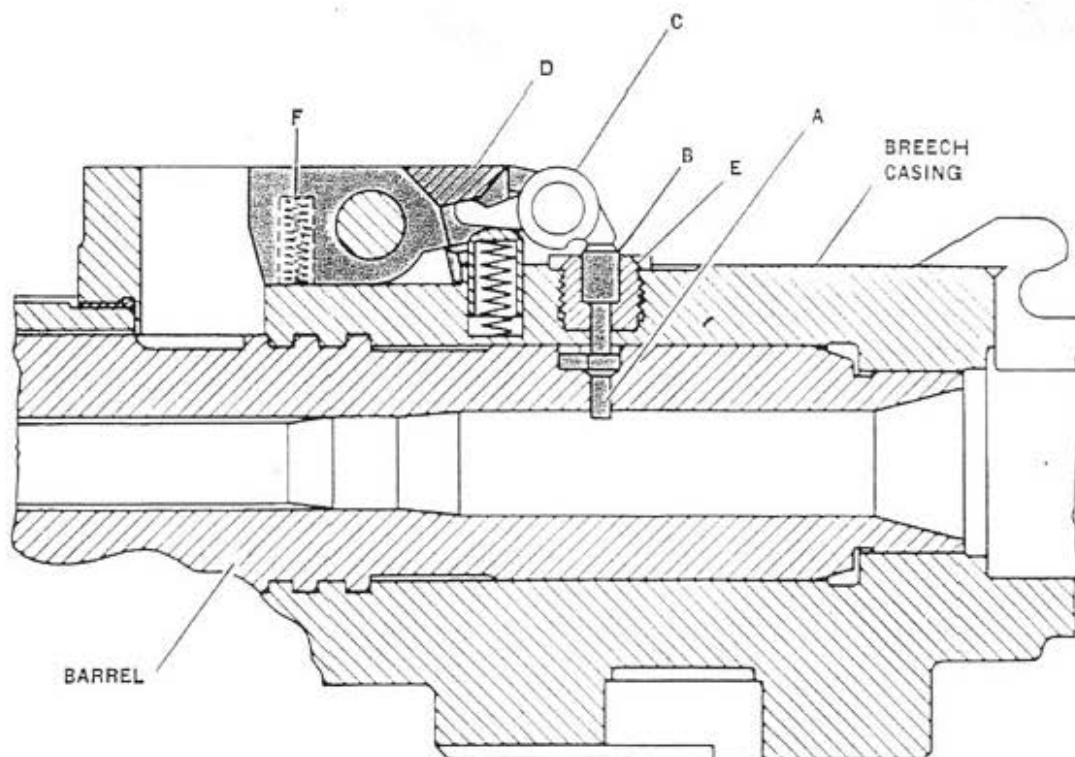

Figure 20—Double loading stop gear. Gun is in cocked position with stop plunger protruding into the firing chamber
The double loading stop (D) with its operating lever (C), upper plunger (B) and lower plunger (A) are shown in Figure 20 in the position they occupy when the gun is cocked. The double loading stop plunger (A) is projecting into the chamber and is the end actuated by the cartridge case. This lower plunger (A) lifts the upper plunger (B) against the rear toe of the double loading stop operating lever (C) lowering its front end; this action permits the double loading stop to rotate about its axis under the pressure of its springs (F). The double loading stop (D) acts as a catch to hold the bolt mass to the rear.
The double loading stop lower plunger (A) is shaped to lie flush with the curve of the firing chamber wall. This lower plunger (A) has a shoulder on its outer end that prevents it from turning and also limits the travel of the lower plunger. The upper plunger (B) is limited on its inward travel by a shoulder on the guide bushing (E) and on its outward travel by the rear end of operating lever (C), Figures 20 and 21.